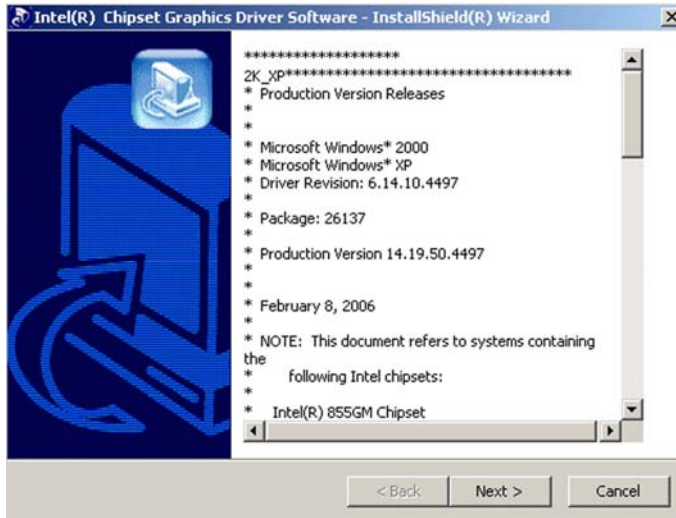

Figure 6-10: GMA Driver Readme File
Step 6: The Readme information file shown in **Figure 6-10** appears.